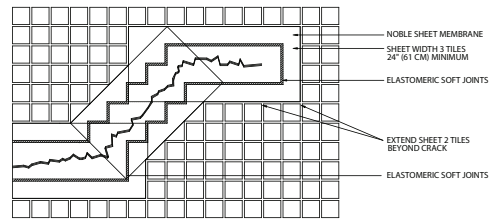

FIGURE 4. SUBSTRATE CROSS SECTION
4.3.b RENOVATIONS: Remove cracked tile and one row of adjacent tile (refer to appropriate detail). Inspect and renovate substrate to comply with ANSI standards. Determine that surfaces adjoining cracks are level (see Figure 4).